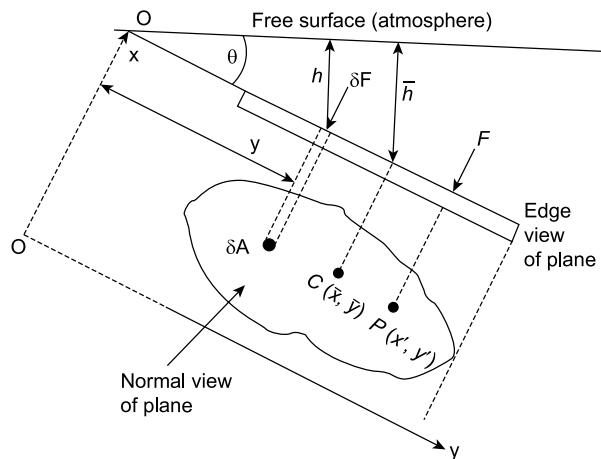

Figure 22.11
Problem 11. Determine an expression for the thrust acting on a submerged plane surface, which is inclined to the horizontal by an angle θ , as shown in Figure 22.11.
From Figure 22.11, $\delta F = \text{elemental thrust on } dA$
Problem 12. Determine an expression for the position of the centre of pressure of the plane surface $P(x', y')$ of Figure 22.11; this is also the position of the centre of thrust.
6. A tank has a flat rectangular end, which is inclined to the horizontal surface, so that $\theta = 30^\circ$, where θ is as defined in Figure 22.11, page 254. If this end is of size 6 m height and 4 m width, determine the thrust on this end and the position of the centre of pressure from the top. The tank may be assumed to be just full. [0.235 MN; 2 m]